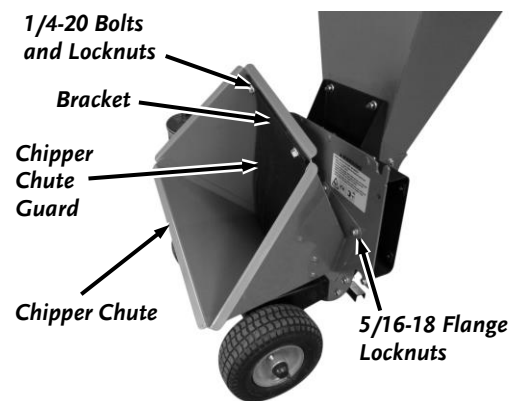

Figure 9
1. Using a 7/16" and 3/8" wrench, remove a Locknut from one of the Chipper Chute Guard Bolts, position it in the Chipper Chute, and loosely reinstall the Locknut (**Figure 9**). Repeat for the second Locknut. Fully tighten both Locknuts.